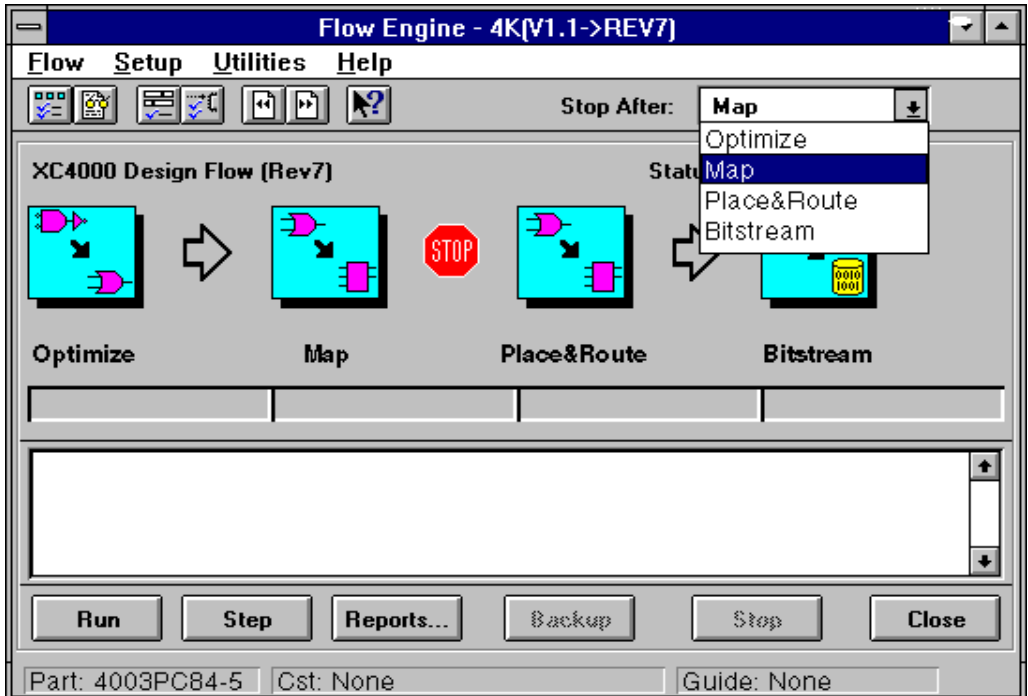

Figure 3-25 Flow Engine Window with Separate Optimize and Map Icons
This causes the Flow Engine to separate the map step from the place and route step (see Figure 3-25).
5. Select Map in the Stop After popup menu on the right side of the Flow Engine tool bar. See Figure 3-25.